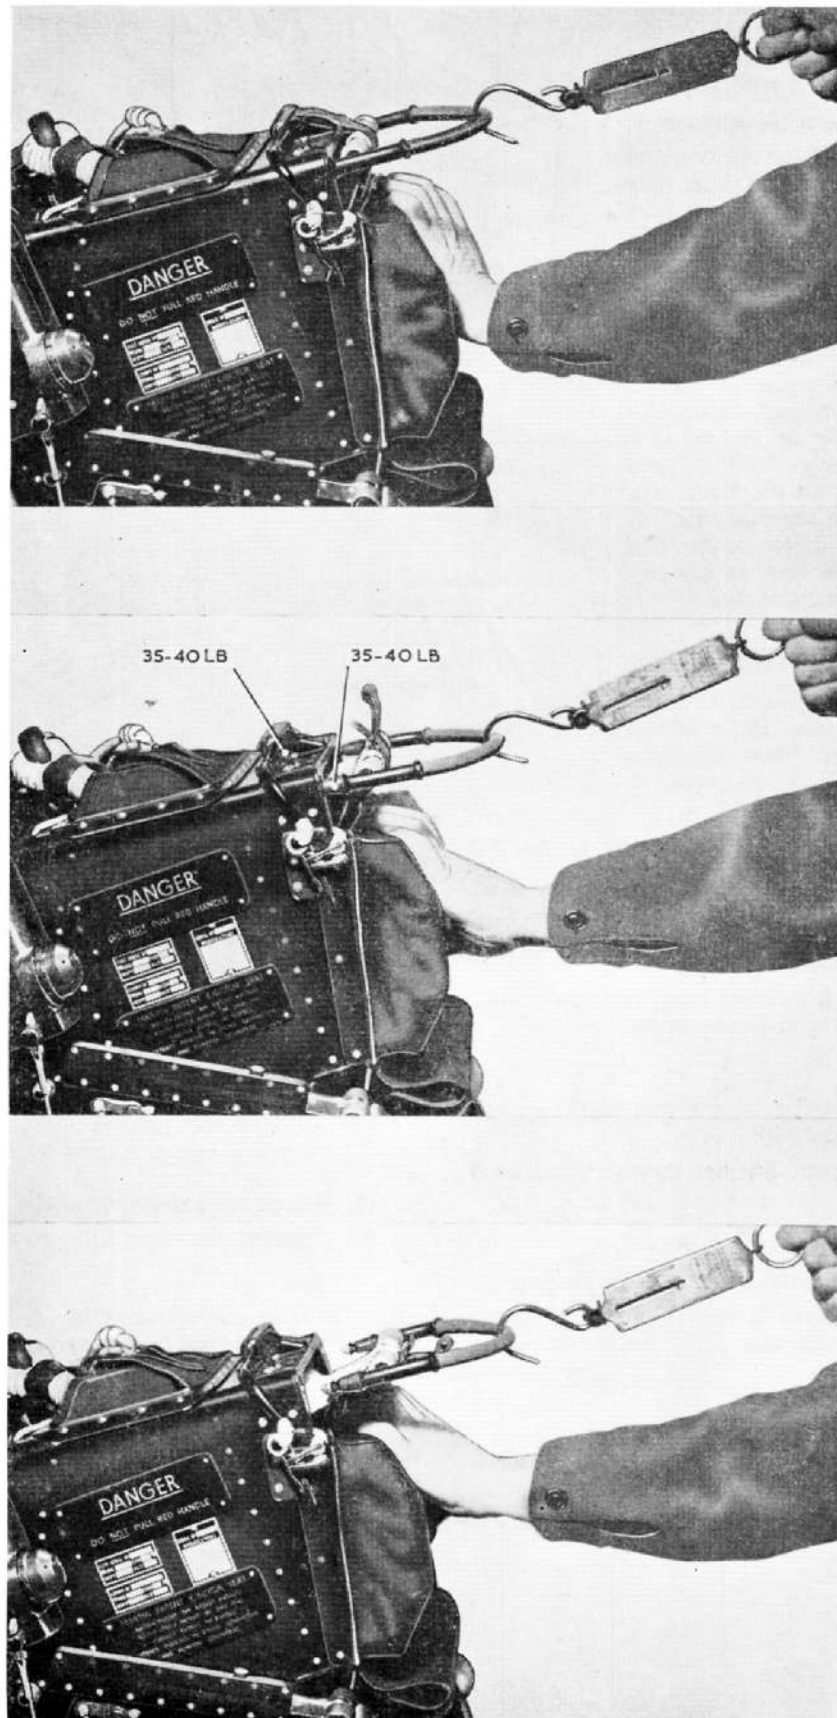

Fig. 16. Testing the face screen
28. Connect a spring balance to the firing handle (fig. 16) and pull until the spring-loaded plungers disengage, watching the scale whilst doing so. The face screen should not pull out of its housing until the scale registers 35 to 40 lb. Repeat the test (if necessary re-engaging the spring-loaded plungers) and check that the tongue on the safety strap does not pull out of the restraining clip on top of the drogue container until 35 to 40 lb. is registered.